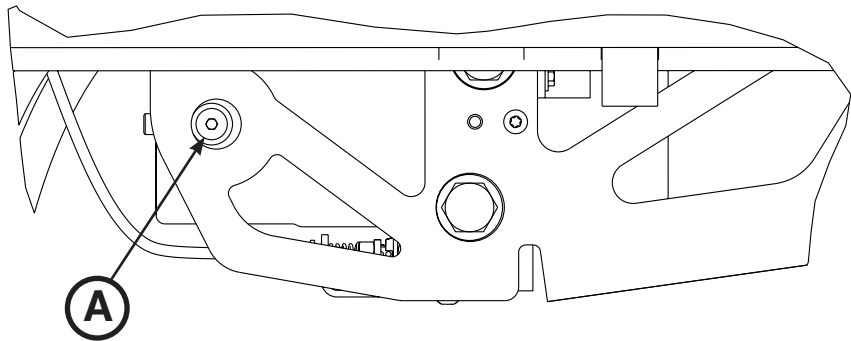

Figure 88
3. Remove the port plug (A) using a 3/16" hex wrench (Figure 88).